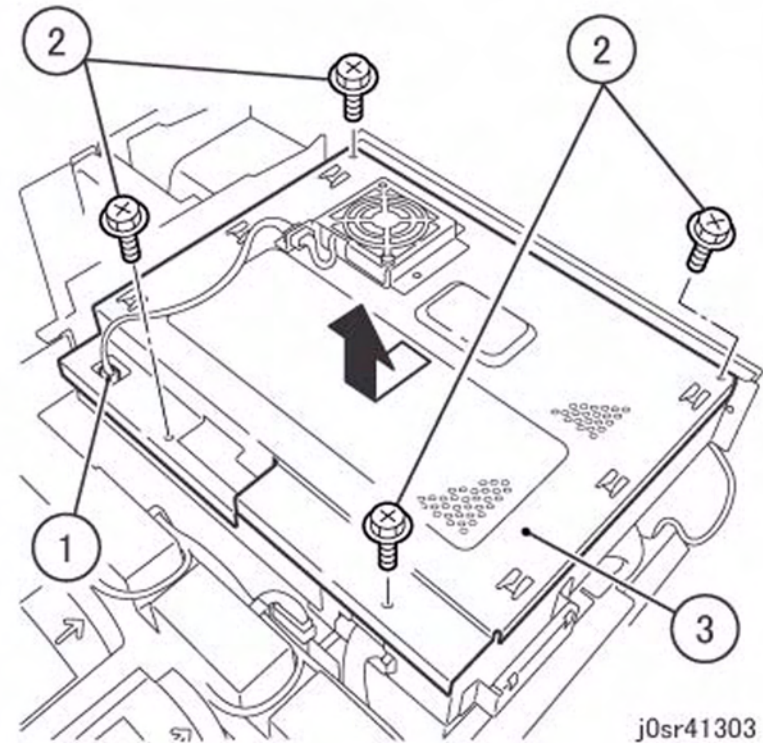

Figure 2 Removing the ESS Cover Assembly
5. Remove the ESS Cover Assembly (Figure 2).